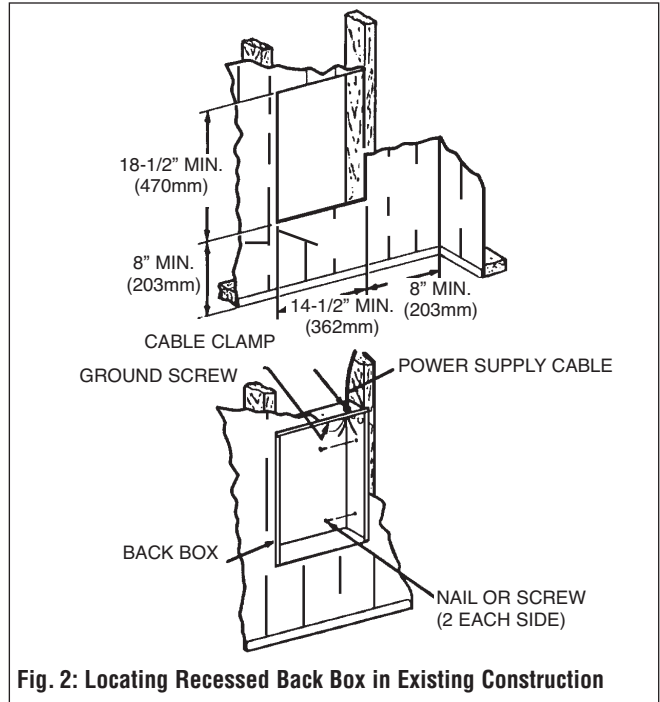

Fig. 2: Locating Recessed Back Box in Existing Construction
1. Provide a wall opening 14-1/2" (362mm) wide x 18-1/2" (470mm) high at the desired mounting height, but no closer than 8" (203mm). (See Figure 2.)